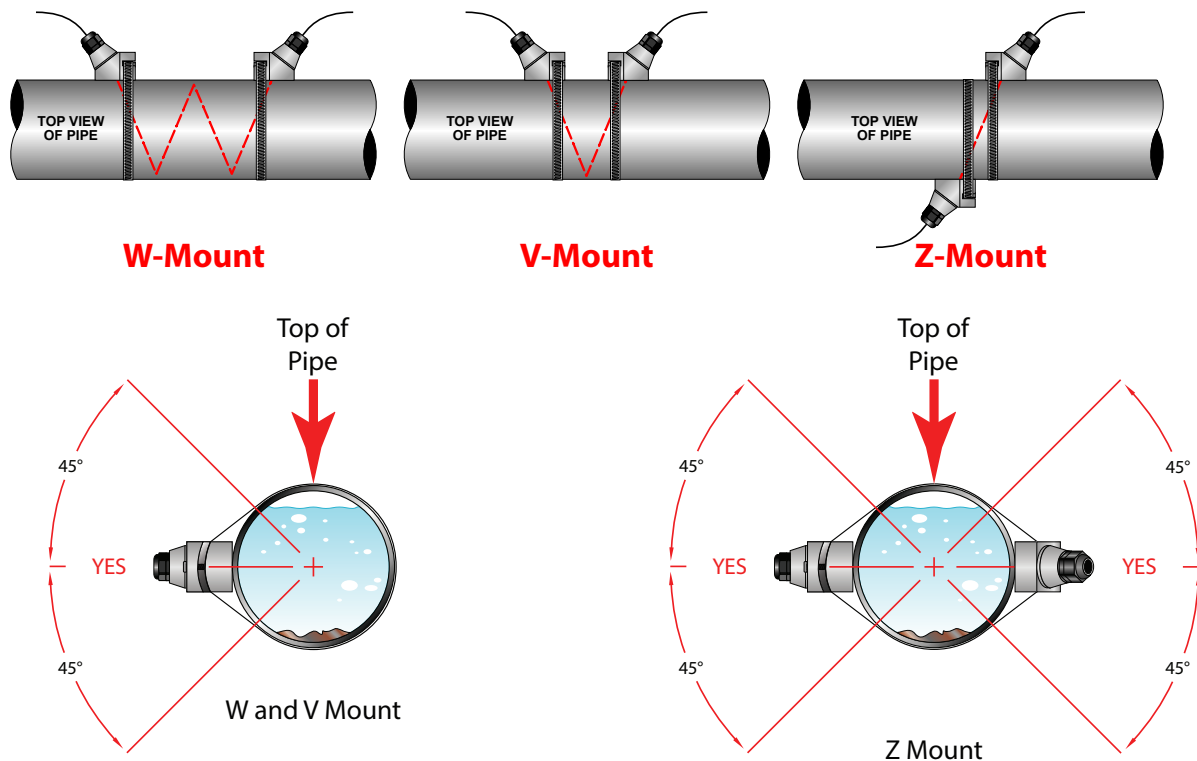

Figure 1: Transducer mounting configurations
- If the application requires DTTR, DTTN, DTTL or DTTH transducers, select a mounting method for the transducers based on pipe size and liquid characteristics. See *Table 3 on page 17*. The three transducer mounting configurations are shown in *Figure 1*. See "Transducer Mounting Configurations" on *page 20* for mounting procedures.